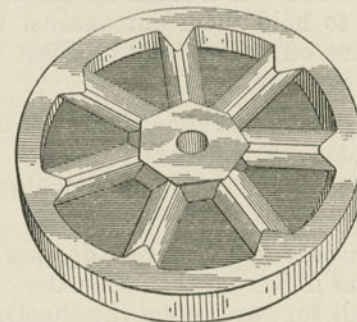

Fig. 142. Half of Vauclean Two-part Cast-iron Piston-head.
A. By casting them of two sections, and riveting them together; the sections being as shown in Fig. 142.